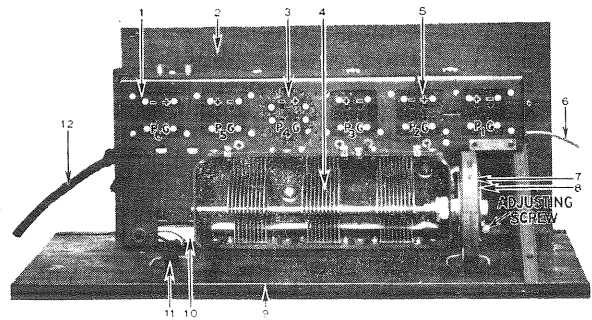
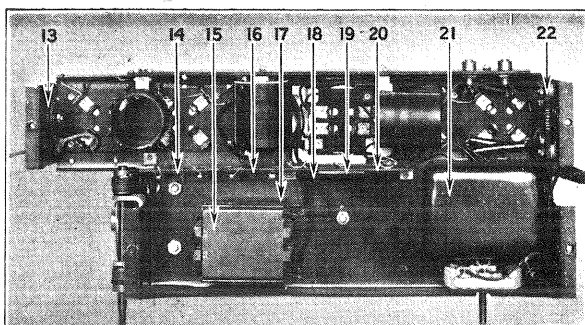

Fig 1
Fig. 2
If the Weston Radio Set Tester is used, the tube tests can be made in the regular manner by placing the plug in socket No. 1, Fig. 1. If the set tester is not available, the low scale of the voltmeter can be used, the procedure being as follows:
- b. Place the two leads connected to the low scale of the voltmeter in the two filament socket contacts of Radiotron Socket No. 2 marked "+" and "-" as shown in Fig. 1; regulate the voltage to 5 volts.
- d. Note the deflection of the meter when the latter is connected as described above, and compare this deflection with that given by a tube which is known to be good. The amount of deflection depends on (1) the meter used, (2) the condition of the "B" batteries, and (3) the condition of the tube under test. (1) and (2) remaining unchanged, a comparative indication of the condition of the various tubes can be obtained; in general a high deflection indicates a good tube, and a low deflection indicates a poor tube.
5. The various Radiotrons, shown in Fig. 1, function as follows:
- a. Various Radiotrons should be tried in sockets Nos. 2 and 3, Fig. 1, until two have been found which cause a minimum amount of oscillation.
- (1) Broken wire in cable.
- (2) Broken contact on fixed resistor, 22, Fig. 2, in +A line.
- (3) Broken filament leads from resistor to sockets.
- (4) Poor socket contacts.
- (5) Leads to volume control, 10, Fig. 1, broken or loose.
- (6) Contact arm on volume control not making proper contact.
- (7) Open fuse (if used) in +A lead.
- (8) Poor contact at battery terminals.
- b. **GRID TESTS**—Reconnect the batteries; remove all tubes from the sockets; and turn the Switch knob of the Weston Radio Set Tester to the "C" position, or using the low scale of the 0-7.5 and 0-150 voltmeter, test the "C" battery voltage in sockets Nos. 5 and 6. No "C" battery reading will be obtainable from sockets 1, 2, 3 and 4. If the voltmeter is used, place the lead connected to the + terminal of the meter in a "—A" contact, and the lead connected to the 7.5 terminal of the meter in the "G" contact shown in Fig. 1. With the power switch pushed down to the "on" position, the following are the approximate results which should be obtained.
Any slack in the condenser drive cable can be taken up by tightening the adjusting screw shown in Fig. 1.